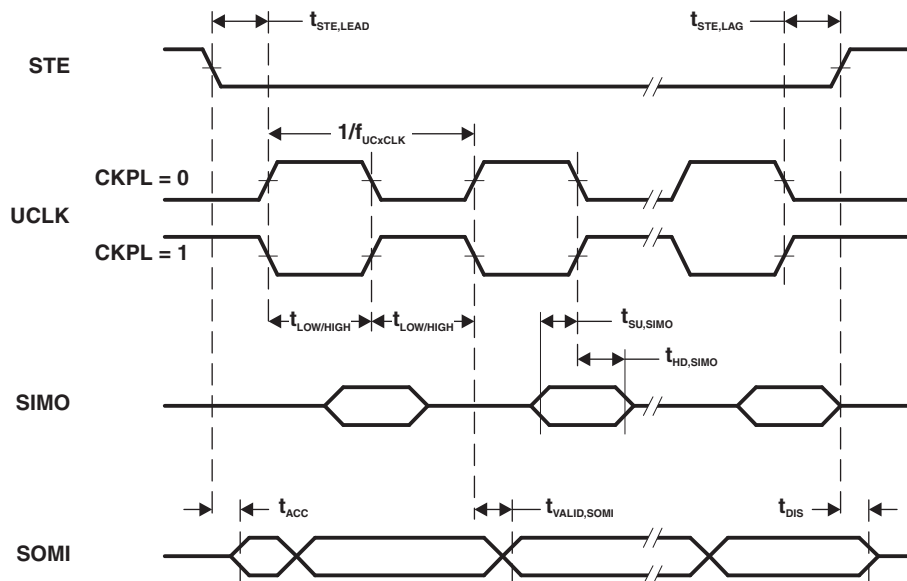

Figure 5-12. SPI Slave Mode, CKPH = 0
(1) $f_{UCxCLK} = 1/2t_{LO/HI}$ with $t_{LO/HI} \geq \max(t_{VALID,MO(Master)} + t_{SU,SI(eUSCI)}, t_{SU,MI(Master)} + t_{VALID,SO(eUSCI)})$.For the master parameters $t_{SU,MI(Master)}$ and $t_{VALID,MO(Master)}$ refer to the SPI parameters of the attached slave.(2) Specifies the time to drive the next valid data to the SOMI output after the output changing UCLK clock edge. Refer to the timing diagrams in Figure 5-12 and Figure 5-13.(3) Specifies how long data on the SOMI output is valid after the output changing UCLK clock edge. Refer to the timing diagrams in Figure 5-12 and Figure 5-13.